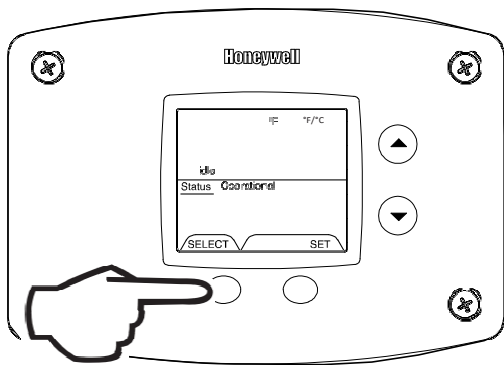

Fig. 19
1. Press 'SELECT' button until °F/ °C is displayed (Fig. 19).